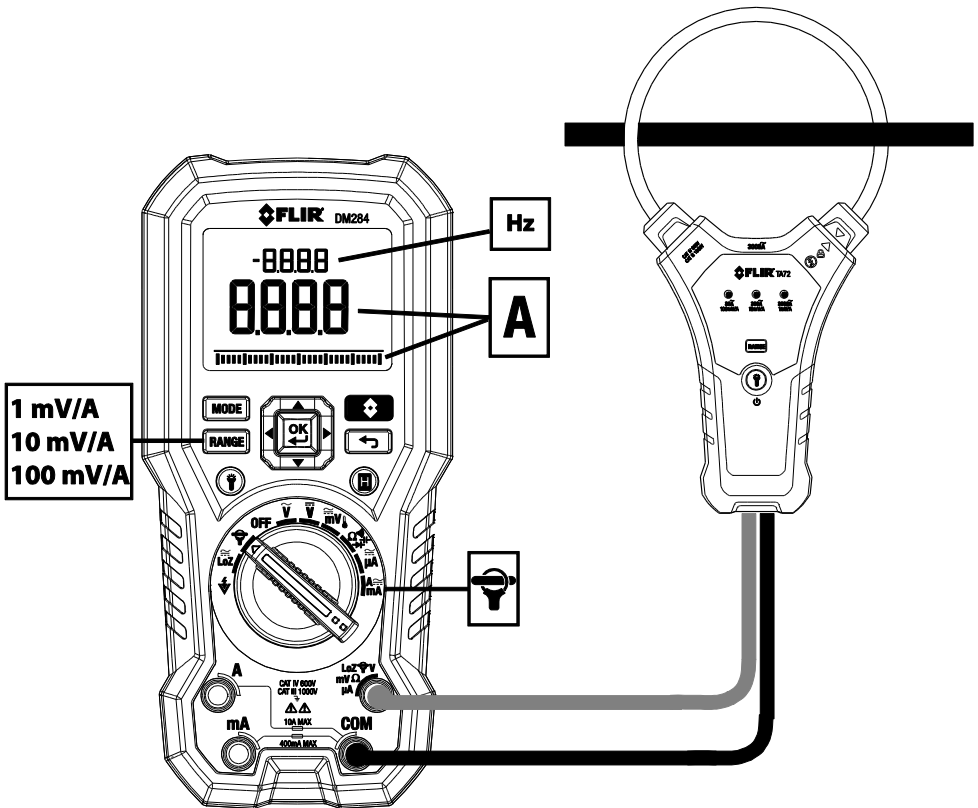

Fig. 7-12 FLEX Clamp Application
2. Connect a Clamp adaptor as shown in **Fig. 7-12**.